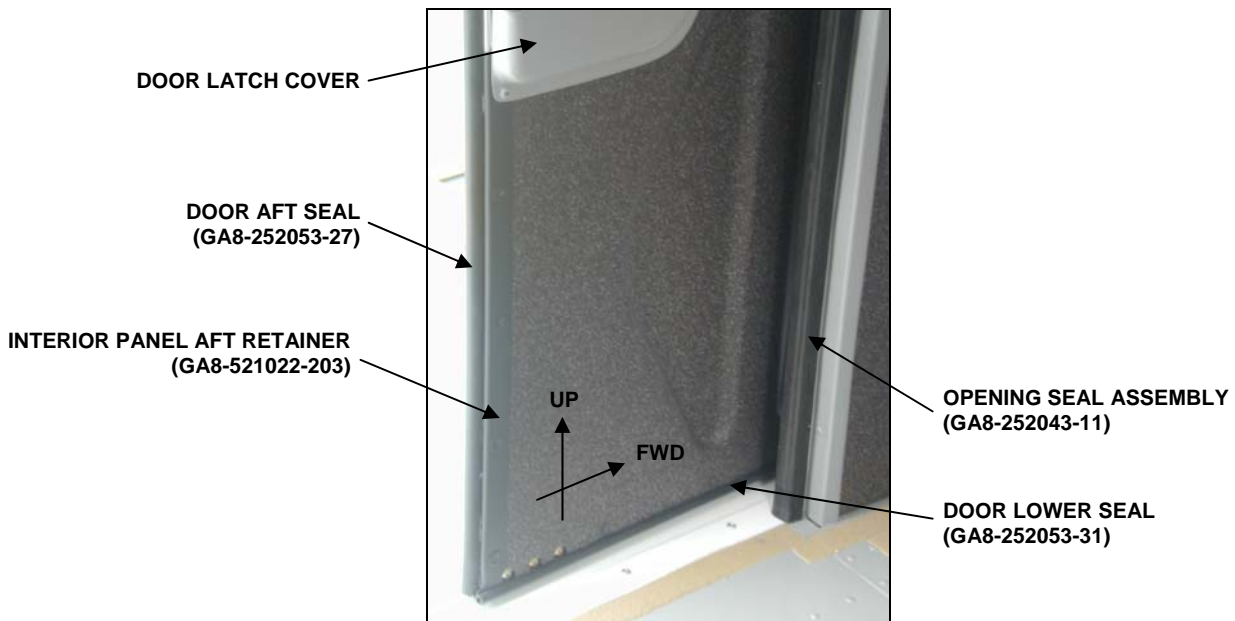

Figure 10: Installation of new rear cabin door seals and interior panel aft retainer.
21. Temporarily secure the interior panel onto the door frame and locate the new interior panel aft retainer (GA8-521022-203) onto the interior panel orientated with the chamfered corner of the retainer at the lower aft corner of the panel (Figure 10 shows the location and orientation of the new interior panel aft retainer). Mark the four 5/16" diameter holes from the retainer onto the interior panel. Drill 3/32" diameter (#40) holes through the interior panel and door frame at the centre of the four marked holes.
38. Figures 10 to 15 show various aspects of the installation of the new cabin door seals.